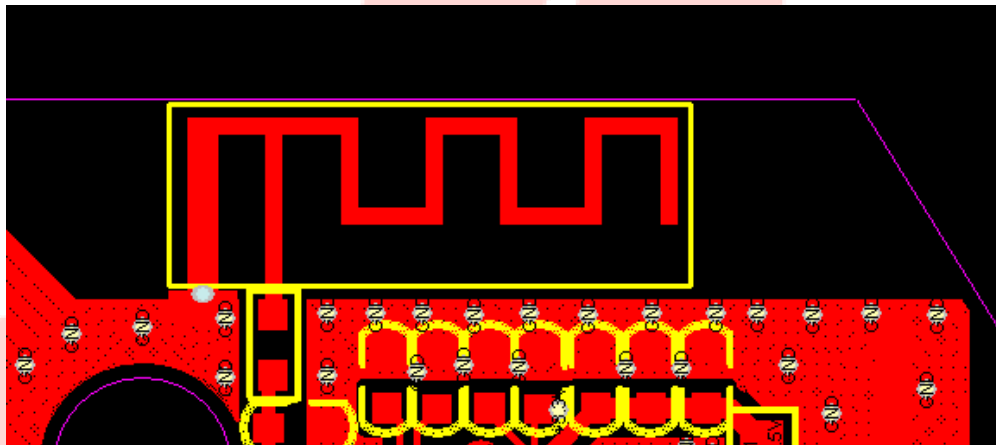

Figure 2 RF antenna layout
- 1) The RF antenna should preferably use an inverted F shape, as shown in Figure 2.
- 2) The RF antenna must be placed at the edge of the board, strictly prohibited from being wrapped by GND, and there must be no metallic components on both sides. A three-sided hollow design (top, left, right) should be adopted, as shown in Figure 2.